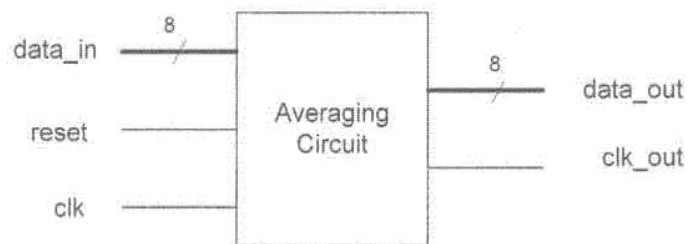

Figure 5.1
5. Figure 5.1 shows an averaging circuit that computes the average of every four consecutive samples of an eight bit data stream *data_in* according to the equation: